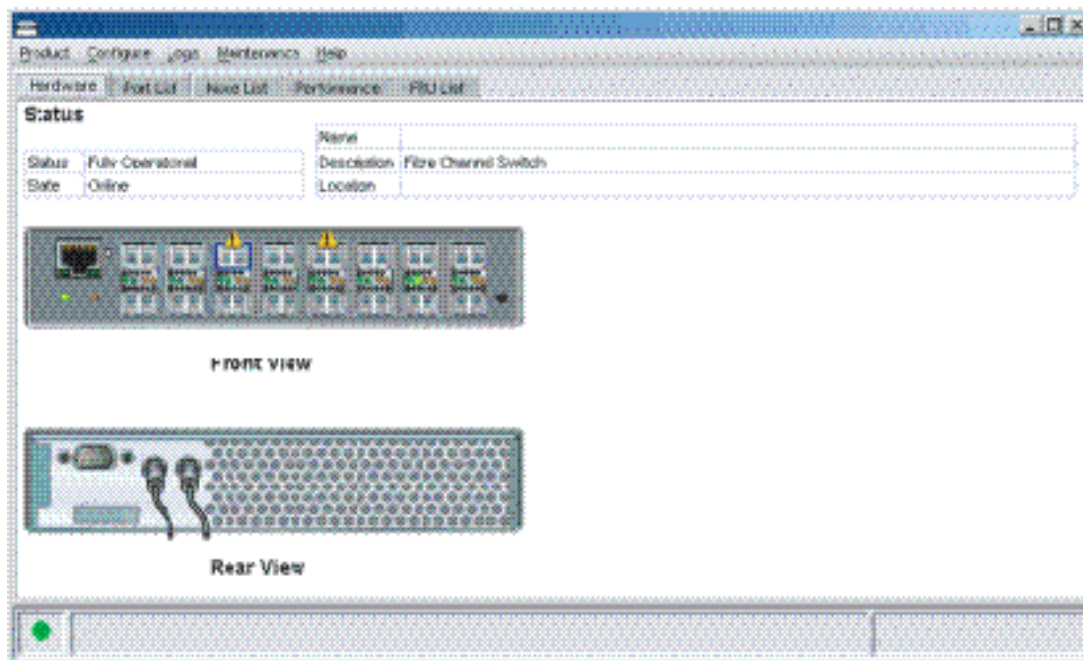

Figure 2-25 Hardware View
3. Select the *Element Manager* option from the pop-up menu. When the Element Manager application opens, the last view accessed by a user opens by default. As an example, the *Hardware View* (Figure 2-25) is shown.